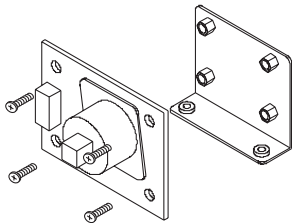

Figure 25: Airflow sensor and bracket installation
2. Mount Airflow sensor PCB on Airflow bracket with screws provided. See Figure 25.